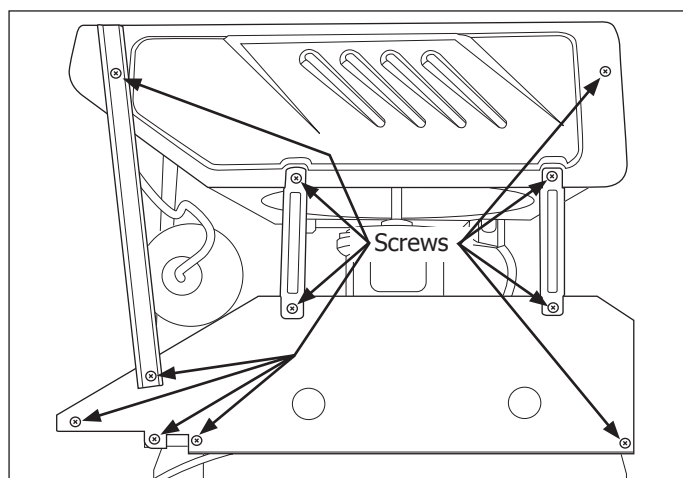

Figure 4-40.
3. Extract the screws securing the braces to the blower and condenser covers. Remove braces from unit. (See Figure 4-40)